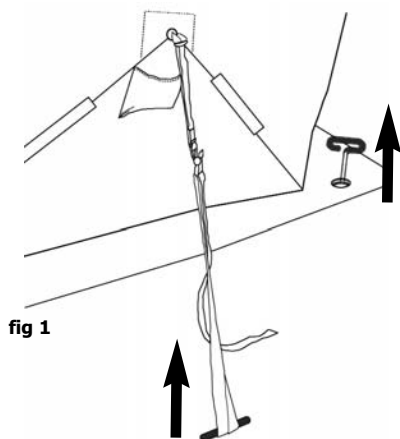

fig 1
Step 1: After removing Shelter from Case, unfold each corner outward and lay flat on ground (**fig 1**). Be sure material is **NOT** twisted or overlapping ends of poles.
Step 1: Close all windows from interior, then exit shelter. Loosen all hub tie-down straps then remove Ice Spikes by unscrewing them from ice (fig 1). Store in pouch provided.